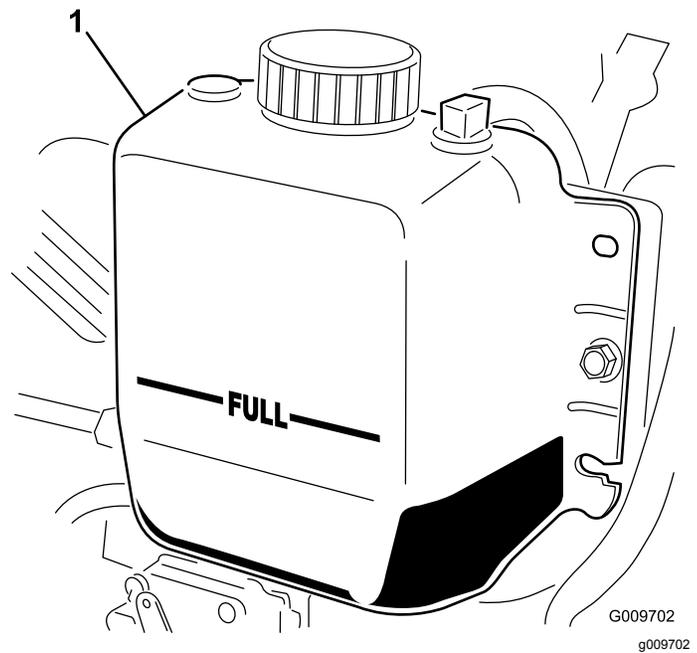

Figure 74
2. Check the coolant level in the radiator. The radiator should be filled to the top of the filler neck and the expansion tank filled to the FULL mark (Figure 74).